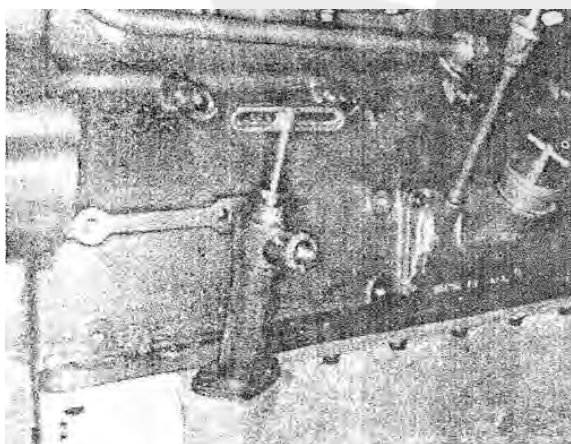

Fig 2-1 Hand sump pump
1. Bring engine to operating temperature, shut down engine, remove drain plug from bottom of oil pan, and drain oil, or pump oil from pan (Fig. 2-1).